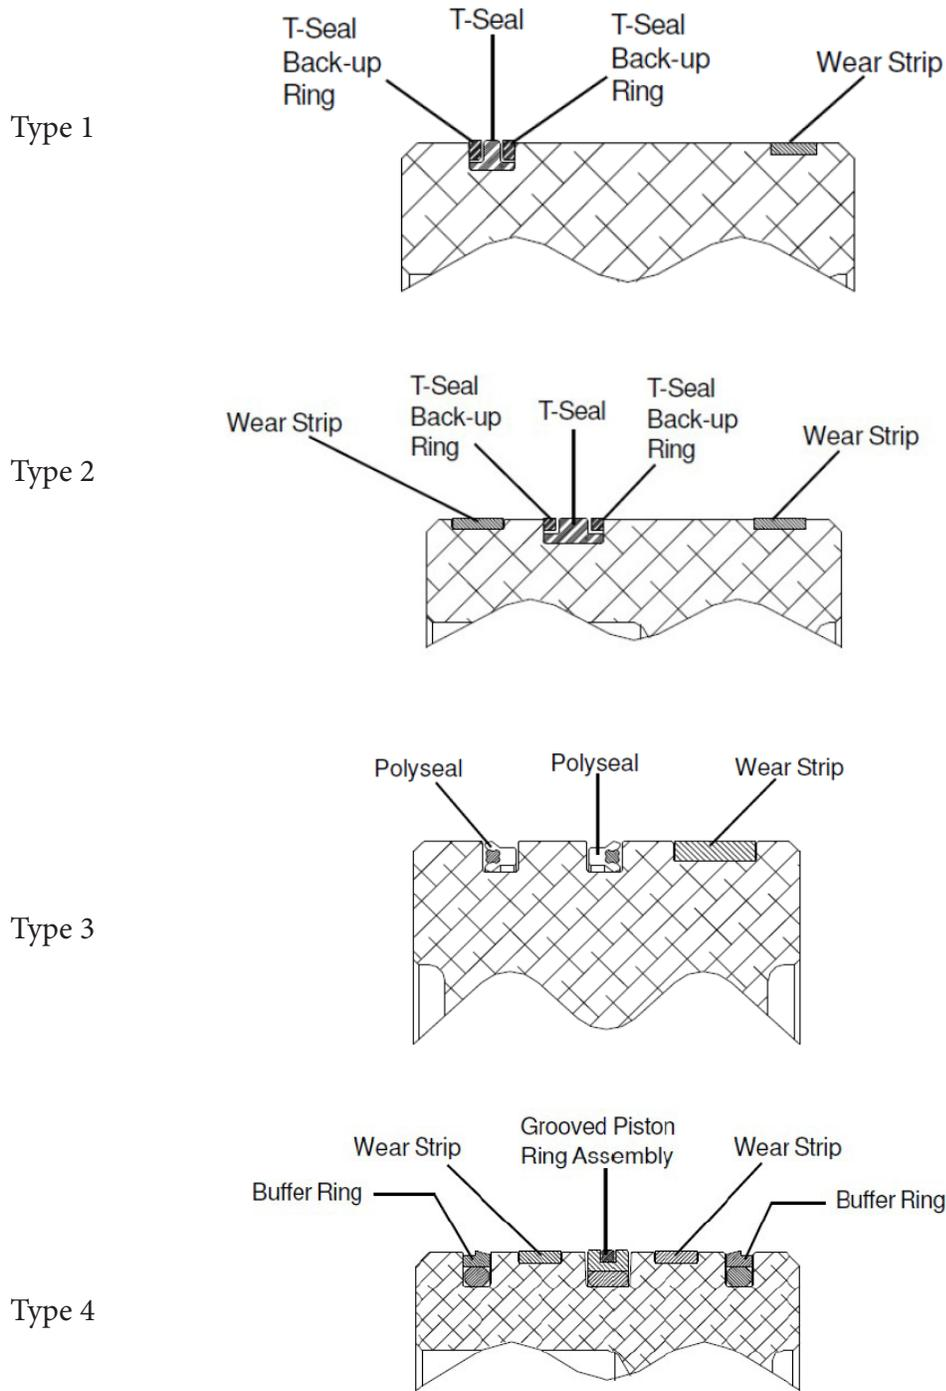

Figure 5 - Piston Sealing Arrangements
4. Install the seals onto the end-caps. The most common sealing arrangement for the end-caps is an o-ring with a back-up ring. The o-ring should always be positioned on the pressure side of the end-cap (Closest to the installed piston). And, the back-up ring should always be positioned closest to the end-cap thread (See Figure 5).